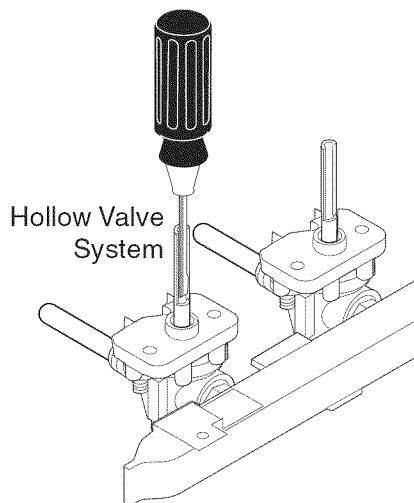

Figure 12
4. Adjust the "LO" or "SIMMER" Setting of Surface Burner Valves (see Figure 12)